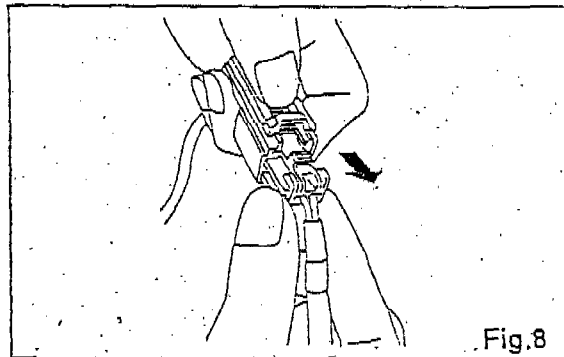

Fig.8
- (3) With slide lock (B) pulled, remove lock arm (A) to its original position, and then pull in the direction of the arrow and separate the connector (Fig.8).